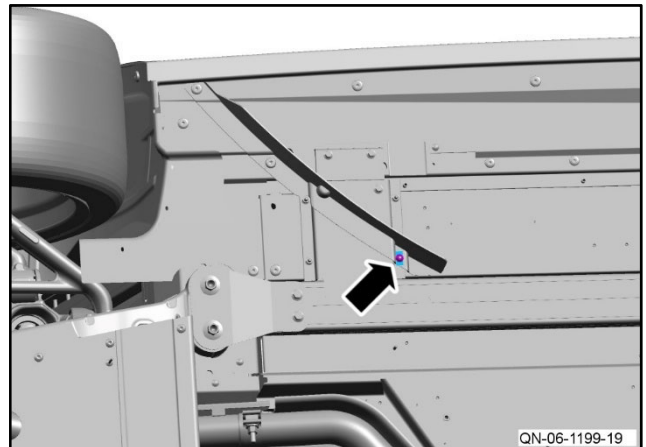

Figure 28
- 27 Remove the nut that attaches the right side aero fence to the vehicle body (refer to Figure 28).